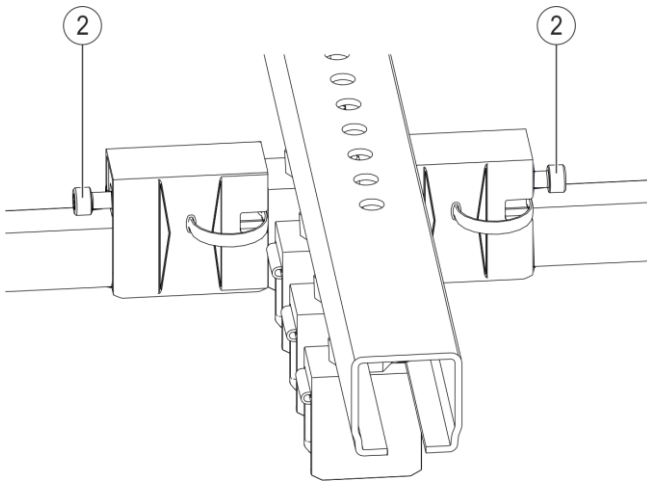

Fig. 93: Screw on the anchor clamps 0812
- Tighten the side screw (Pos. 2) (see Fig. 93) on the anchor point clamps with the prescribed torque (SW 5, torque wrench: **5.5-6 Nm**). Only tighten the screws after the setting of the system and the setting of the expansion units (see Section 6.4.3.7) have been completed.